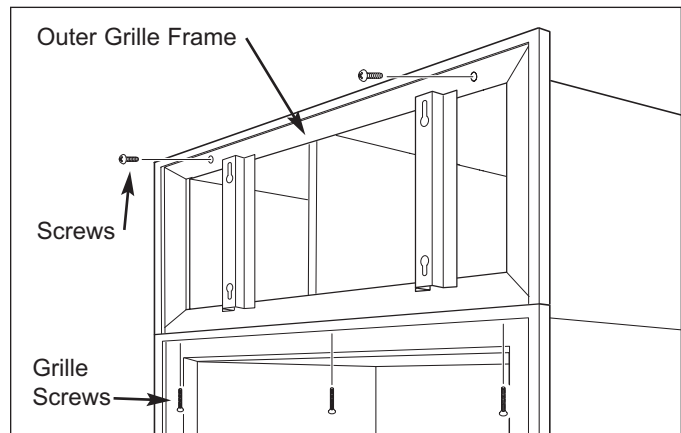

Figure 7-5. Outer Panelized Grille Frame
**Outer Grille Frame Removal** - To remove the outer grille frame (See Figure 7-5):